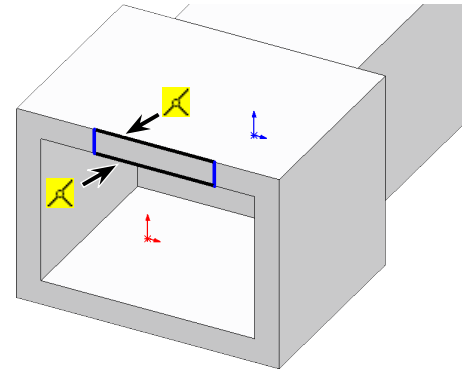

Fig. 15
Step 3. Sketch corner rectangle on front face coincident  with top and bottom edges of cut, **Fig. 15**.